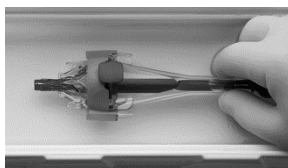

Figure 32
6. Insert the catheter tip guide tube completely into the distal end of the inflow cone (Figure 32). Inspect the outflow struts of the valve and if needed, manually manipulate so they are evenly spaced and the bioprosthesis frame paddles are approximately 180° apart.